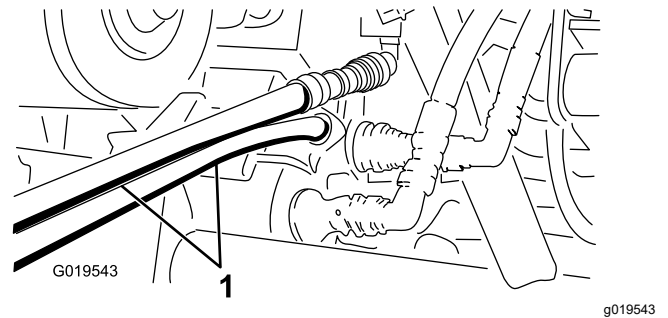

Figure 73
5. On the other machine, connect the 2 hoses to the coupler still in the coupler bracket (connect the top hose to the top coupler and the bottom hose to the bottom coupler) (Figure 73).